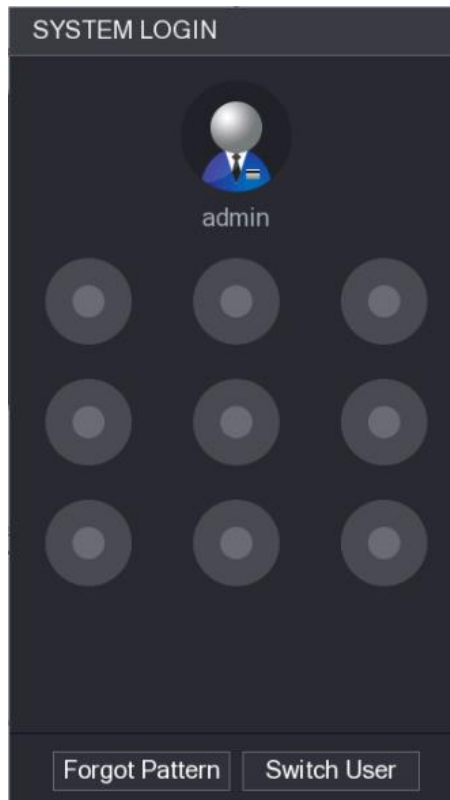
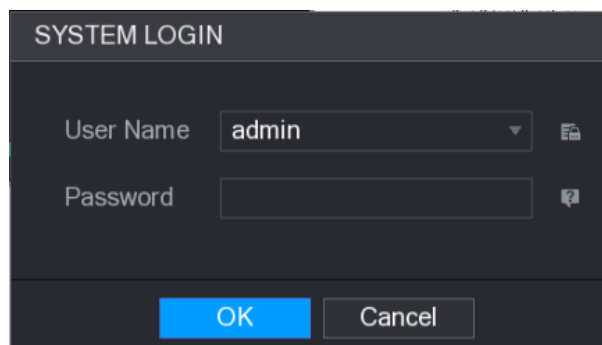

Figure 5-4
Figure 5-5
- If you have configured unlock pattern, the unlock pattern login interface is displayed. See Figure 5-4. Click **Forgot Pattern**, the password login interface is displayed. See Figure 5-5.
- If you did not configure unlock pattern, the password login interface is displayed. See Figure 5-5.